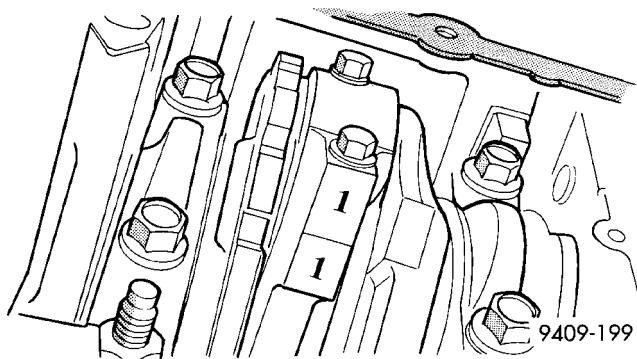

Fig. 44 Identify Connecting Rod to Cylinder-Typical
- (17) Using a permanent ink or paint marker, identify cylinder number on each connecting rod cap (Fig. 44).